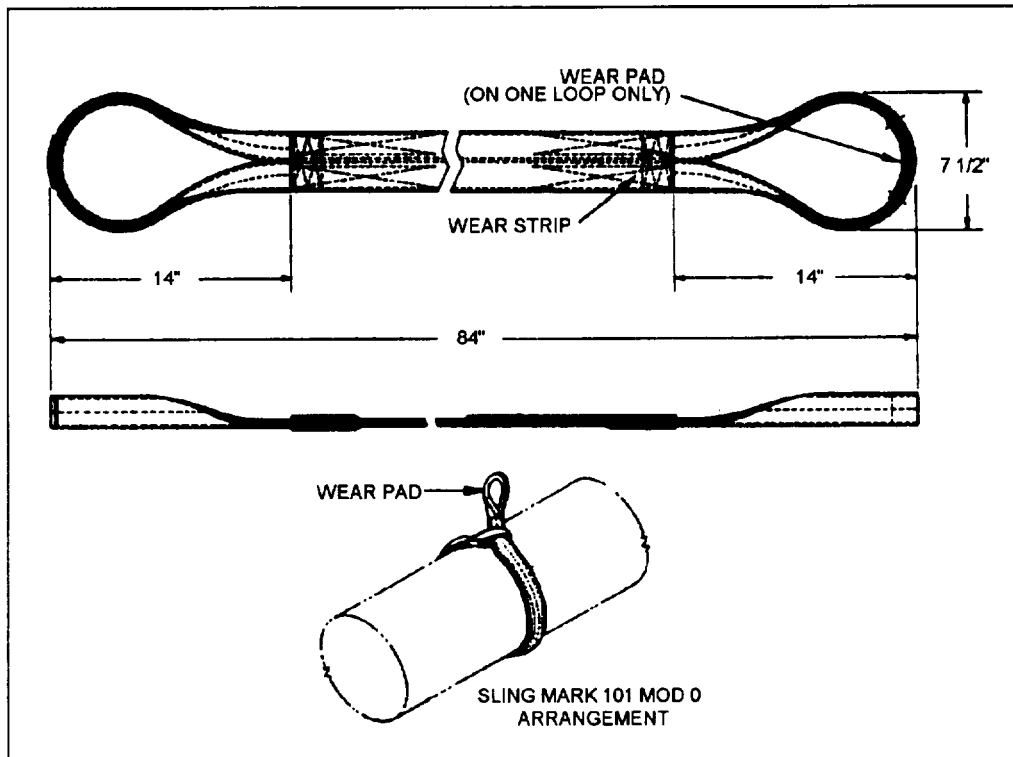

Figure 2-7.—Mk 101 Mod 0 mine sling.
**MK 101 MOD 0 MINE SLING.**— Except for its shorter length, the Mk 101 Mod 0 mine sling, shown in figure 2-7, is similar to the Mk 95 Mod 0 torpedo sling.